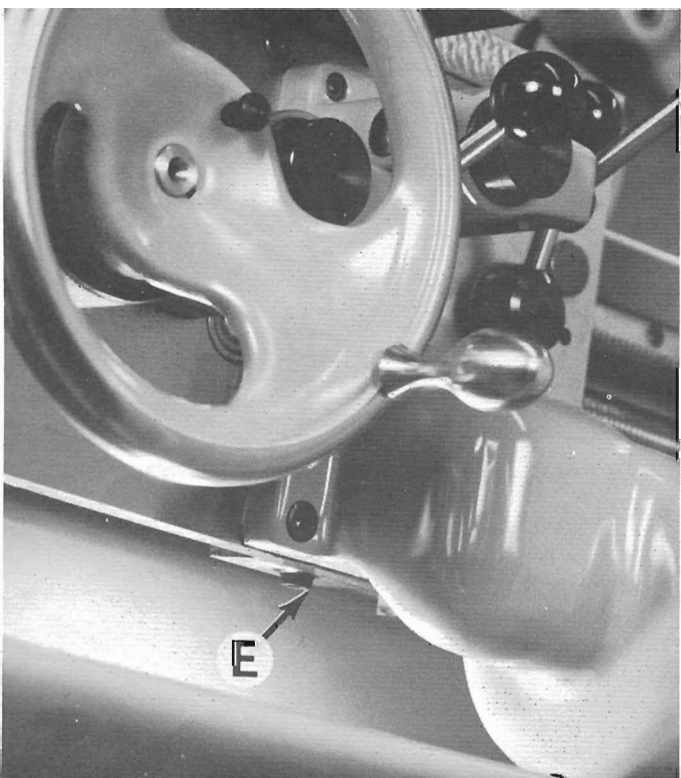

Figure 92 — Lubricant Drain Plug
6. Remove magnetic drain plug "E", Figure 92, to drain transmission fluid from apron. Replace drain plug.
Keep oil in apron assembly in sight window "E", Figure 103. Add oil by removing cap "F". Use automatic transmission fluid Type A Mobilfluid 200 or equivalent. **CHANGE OIL EVERY 60 DAYS.** To drain oil remove magnetic drain plug "E", Figure 92.
1. Remove magnetic drain plug "E", Figure 92, to drain transmission fluid from apron.